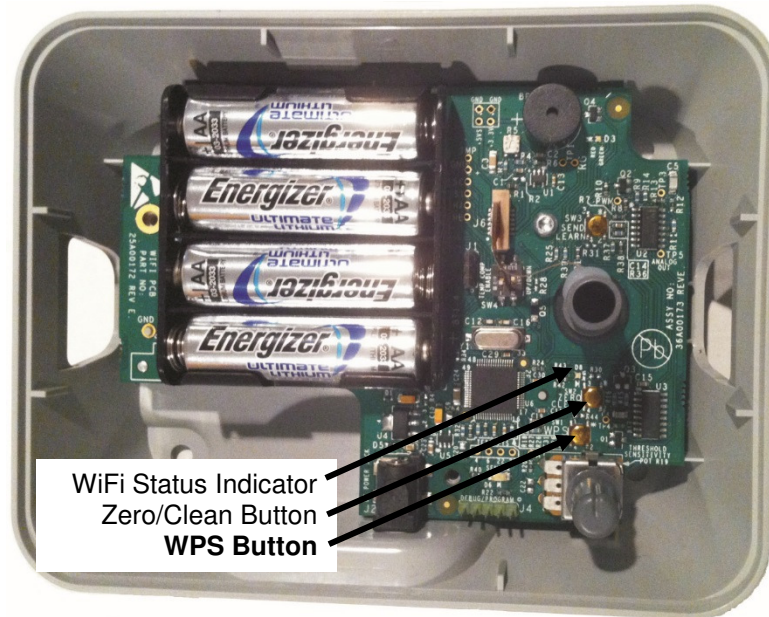

Figure 12: WiFi Status LED and WPS Button Locations
2. Reference Figure 12 to locate the **FILTERSCAN WiFi Air Filter Monitor** WPS button.
- Reference Figure 12 to locate the **FILTERSCAN *WiFi* Air Filter Monitor** WPS button.